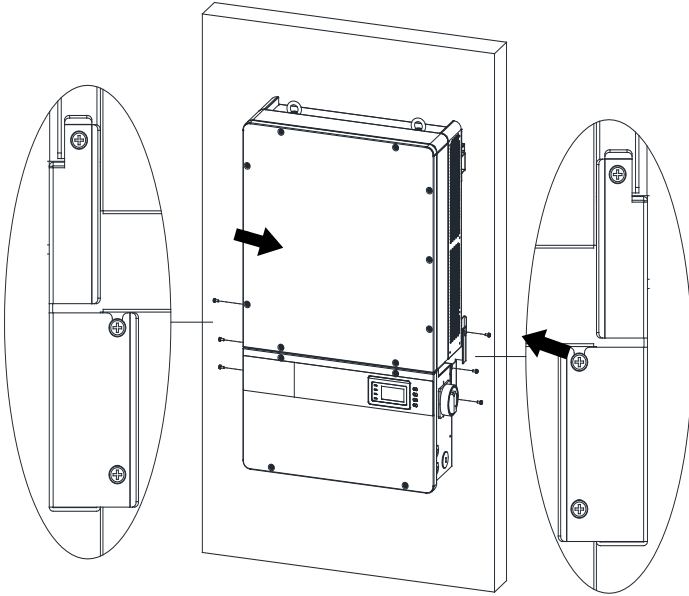

Figure 2.12 - Secure the Main Section and Wiring Box to the Bracket
(5) Attach the main section and the wiring box to the mounting bracket with the **M5x10 bolts** (6 pcs). (see Figure 2.12)